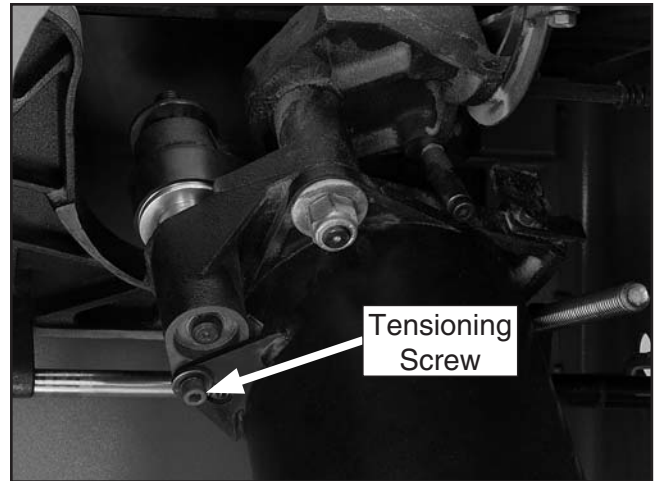

Figure 55. Flat belt tensioning screw.
5. Lower the blade all the way down, loosen the tensioning screw (**Figure 55**), then rotate the motor to release the tension on the flat belt.